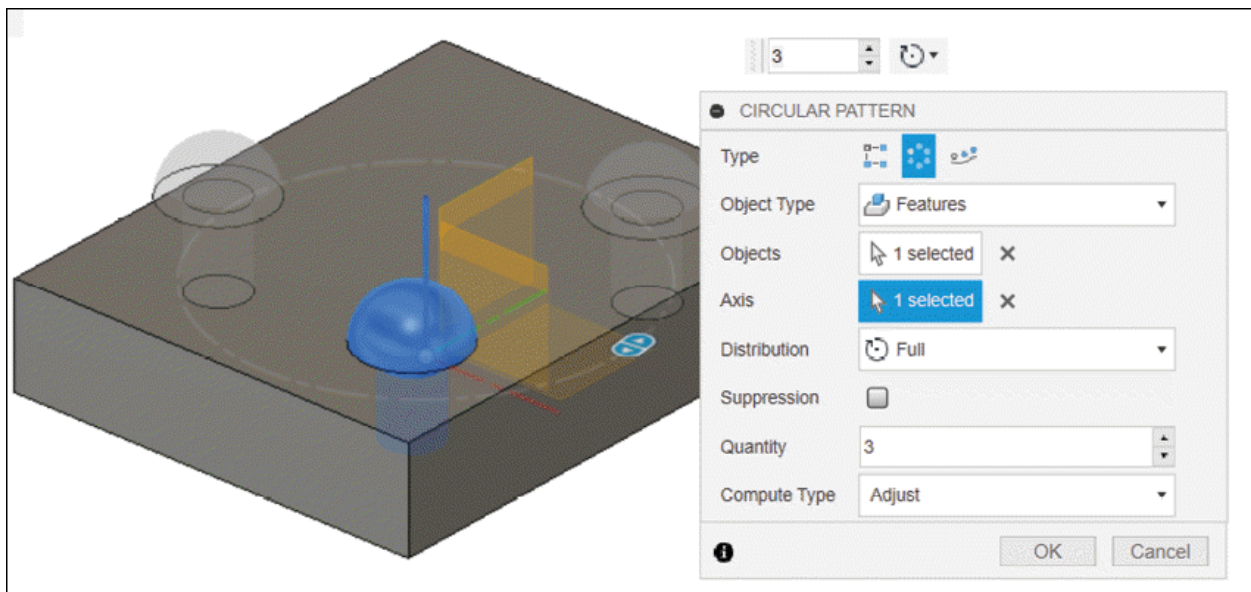

Figure-96. Selection of axis for circular pattern
- Click on **Select** button of **Axis** section and select the edge/axis about which the circular pattern will be created; refer to Figure-96.